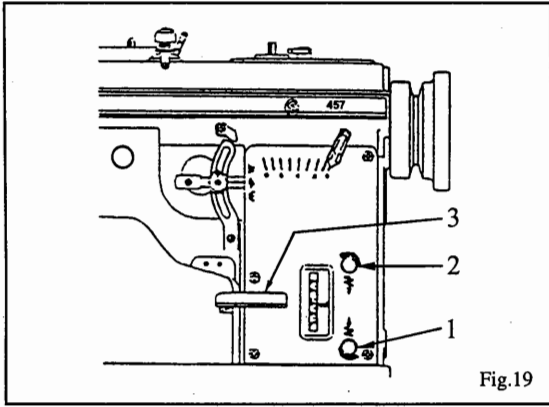

Fig.19
To regulate stitch length for forward feed, turn stitch length regulating screw stud (1), Fig.19, clockwise to shorten the stitch length and counterclockwise to lengthen the stitch length.
To regulate stitch length for reverse feed, turn stitch length regulating screw stud (2), Fig.19, clockwise to shorten the stitch length and counterclockwise to lengthen the stitch length.